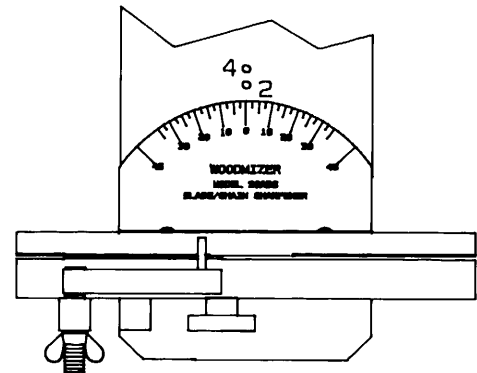

FIGURE 3
1. Set the tooth face angle scale at 0. (**See Figure 3.**) The zero on the scale should also line up with the 0 mark that has been punched into the base plate. As the wheel wears, the blade clamping blocks may be moved away from the operator to keep the blade directly under the center of the grinding wheel. (The other marks are for grinding Micro or Super [Round File] Chisel type chain).
2. Set the hook angle by using the indicators at the back of the throat. (**See Figure 4.**) The numbers and hash-marks indicate how many degrees the grinding head is tilted for hook angle. Set the hook angle gauge with the same line on the base plate as the face angle gauge. (As a general rule, we use 10° hook angle and nominal set for hard woods and up to 15° hook angle and heavier set, up to .085 for the softer woods.) Make sure base rule and face angle gauge is set on 0°. (**See Figure 3.**)